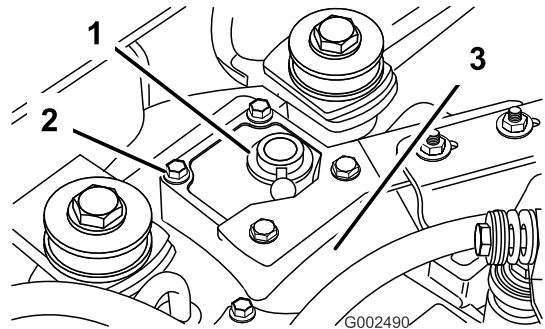

Figure 5
1. Remove the four bolts securing the cover to the top of the transaxle housing (Figure 5).